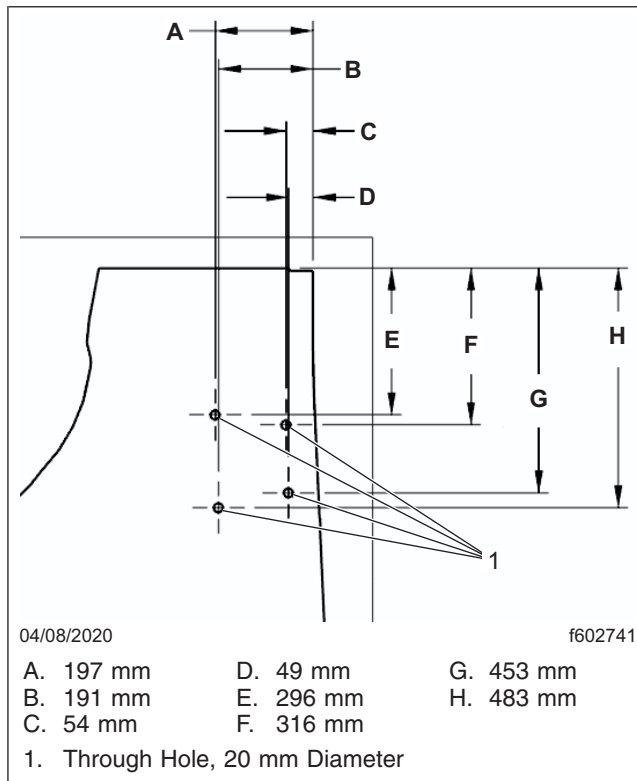

Fig. 7, Push Nut Hole Dimensions, RHD Vehicles
4. For RHD vehicles, drill four holes of 20 mm each through the floor mat with accordance to the dimensions shown in Fig. 7 .